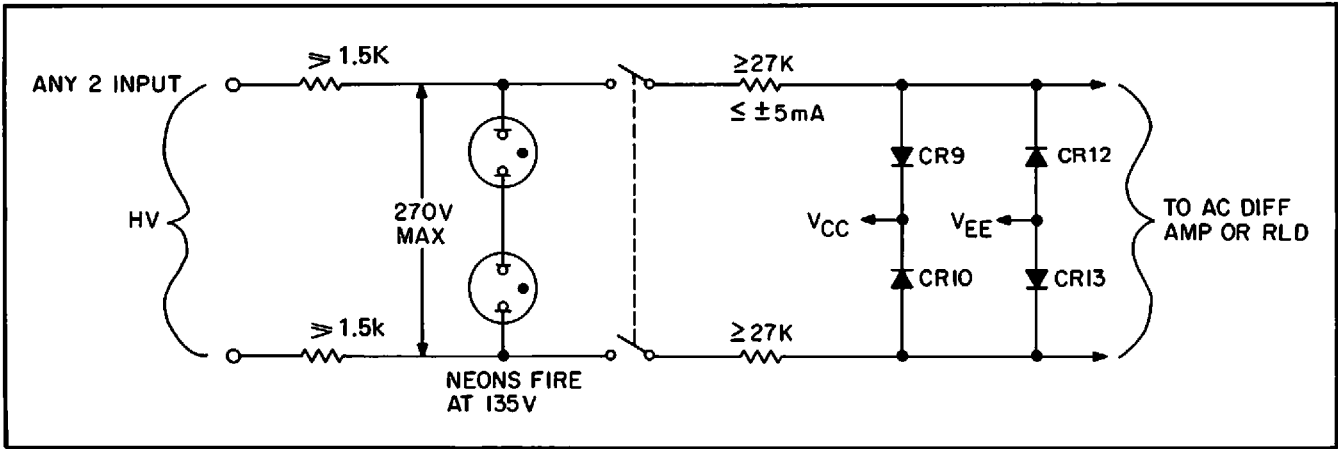

Figure 2-4
2.3.2.1 Protection Circuitry (Fig. 2-4)